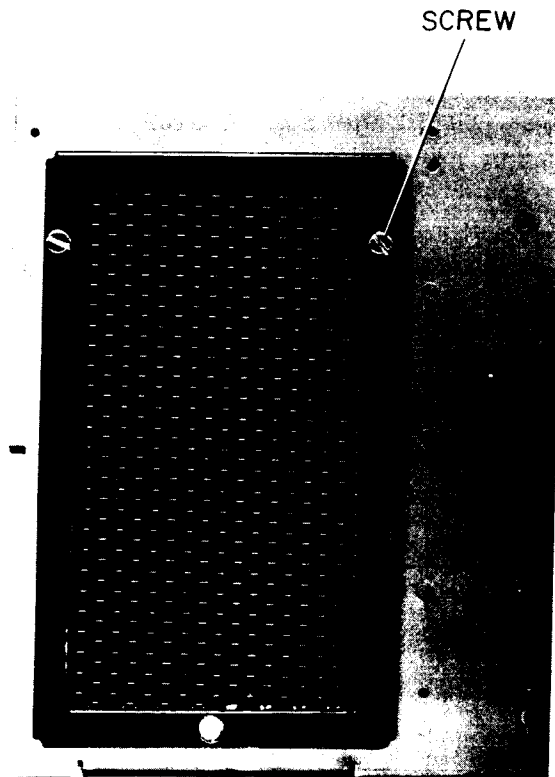

Figure 5-1 Prefilter
4. Vacuum the prefilter outer face (Figure 5-1). If there is excessive dirt on the prefilter, remove the filter and clean it with a mild liquid detergent (e.g., Ivory) and warm water. Using the vacuum cleaner exhaust, air-dry the filter completely before installation.